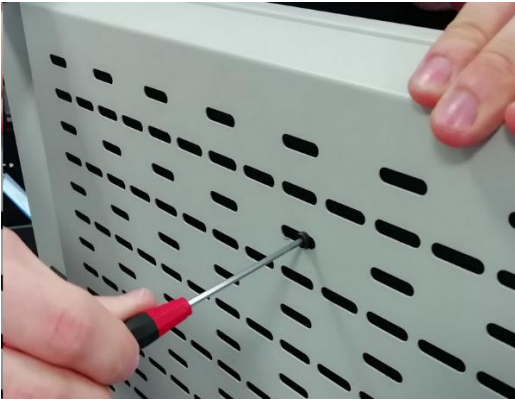

Fig. 19 Tightening the DIN7984-M4x6 screw
12. Tighten the DIN7984-M4x6 screw using a DIN125-M4 washer (Fig. 19).